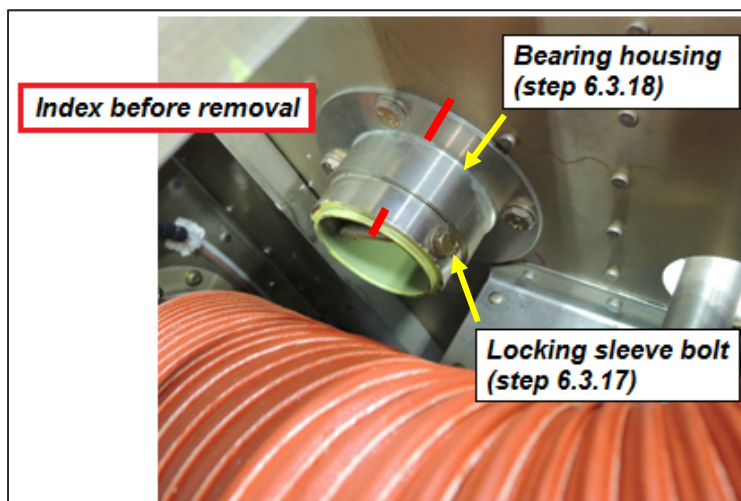

Figure 12. Locking Sleeve and Bearing Housing
- 6.3.17 Index the locking sleeve and the end of the torque tube, then remove one locking sleeve bolt and remove the locking sleeve from the end of the torque tube (Figure 12).
- 6.3.18 Index the bearing housing, then remove the four bearing housing bolts and remove the bearing housing (Figure 12).
- 6.4.9 Reinstall the bearing housing on the torque tube (match the index markings on the torque tube) (Figure 12). **Do not overtorque the bolts through the torque tube.** Torque to shear nut torque (9-11 in-lbs/1-1.2 Nm).
- 6.4.10 Reinstall the outer locking sleeve on the torque tube (match the index markings on the torque tube) (Figure 12). **Do not overtorque the bolts through the torque tube.** Torque to shear nut torque (9-11 in-lbs/1-1.2 Nm).